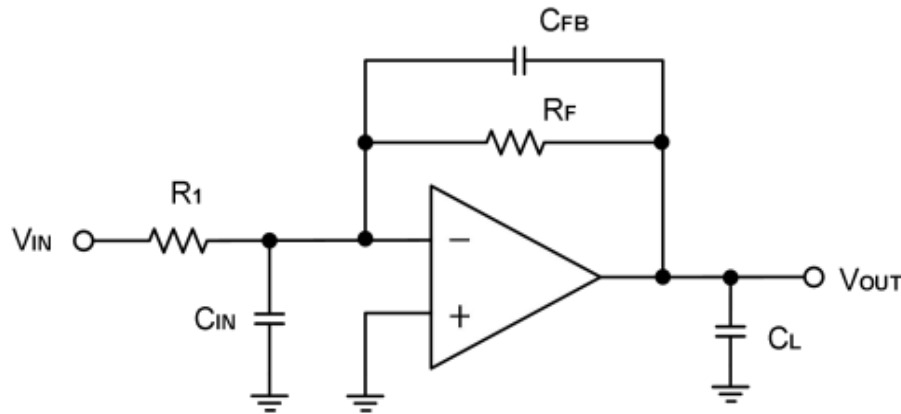

Figure 3. Adding a Feedback Capacitor in the Non-inverting Configuration
- (b) by placing a capacitor in parallel with the feedback resistor to counteract the parasitic capacitance associated with inverting node, as shown in Figure 3.